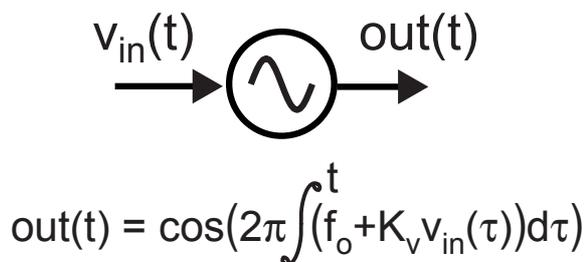
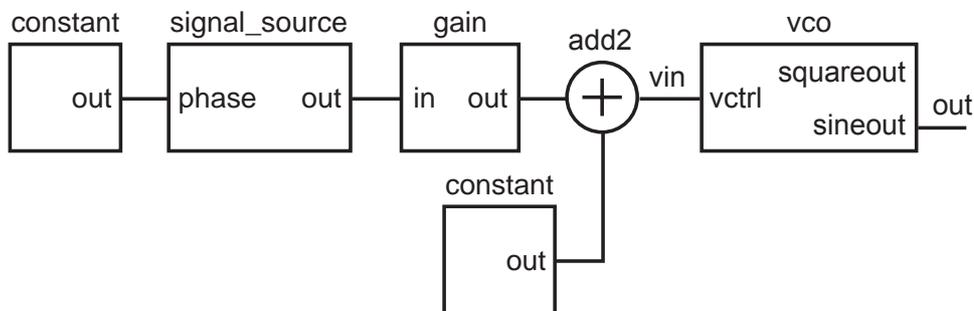

Figure 4: VCO block and associated equation.
Figure 5: CppSim block diagram of VCO spur simulation.
Consider a VCO with a spurious signal entering at its input as depicted in Figure 4. The voltage,  $v_{in}$ , to frequency output,  $f_{out}$ , characteristic of the VCO is assumed to be:
- Use CppSim to simulate the system depicted in Figure 4 with  $v_{in}$  specified as in part (b), where  $V_B = 0$ . Set the simulation sample rate to 1 GHz and the number of simulation samples to 10000, and configure the schematic according to the block diagram shown in Figure 5. Measure the spur levels in units of dBc by taking the fft (scaled in dB) of the sine wave output of the VCO and then comparing the spur to the carrier tone.